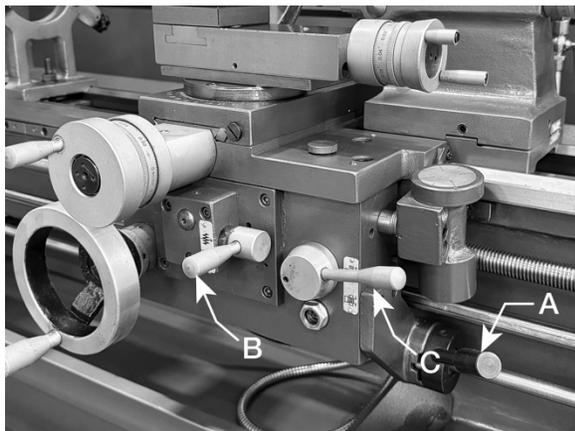

Figure 13-3
1. Move the forward/reverse selector (A, Figure 13-3) up or down depending on desired direction.
4. Push Feed Axis Selector Lever (B, Figure 13-3) to the left and down to engage crossfeed. Push lever to the right and up to engage longitudinal feed.
Push Feed Axis Selector Lever (B, Figure 13-3) to the left and down to engage crossfeed. Pull lever to the right and up to engage longitudinal feed.
3. Make sure the feed axis selector (B, Figure 13-3) is disengaged (neutral position) before engaging the half nut engagement lever. There is an interlock mechanism between the auto-feeding and the thread-cutting half-nut engagement.
4. If cutting Imperial threads, read the threading dial indicator and engage the half nut engagement lever (C, Figure 13-3) by moving it downward. It will engage with the leadscrew to obtain the longitudinal travel of carriage (the thread cutting feed). See *Section 13.7.1 Threading Dial Indicator* for proper use of dial.